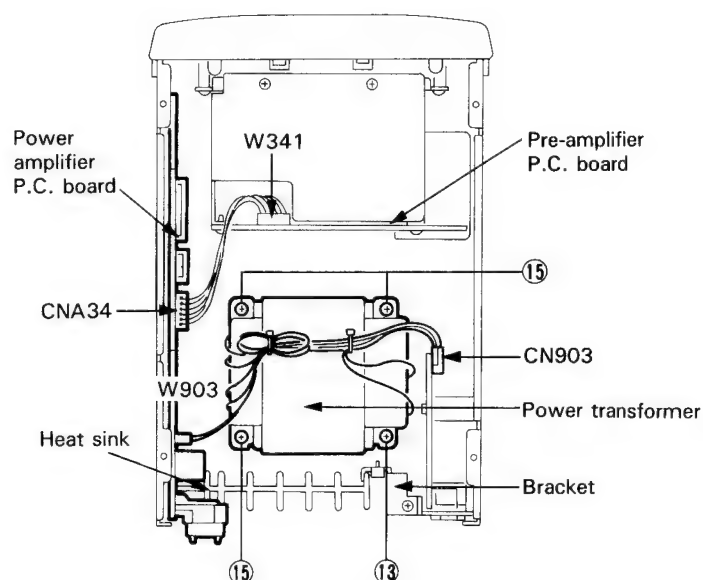

Fig. 7-14
### ■ Method of removing the power amplifier P.C. board (Refer to Fig. 7-14)
7. Remove the one screw (13) retaining the heat sink bracket on the power amplifier P.C. board (Refer to Fig. 7-14).
8. Remove the two wire treating clamps outgoing from W903 on the power transformer and power amplifier P.C. board (Refer to Fig. 7-14).
9. From the connector CN903 on the power supply P.C. board, remove the #4 PIN connector outgoing from W903 on the power amplifier P.C. board (Refer to Fig. 7-14).
(Refer to Figs. 7-14 and 7-15)
2. Remove the four screws (15) retaining the power transformer (Refer to Fig. 7-14).